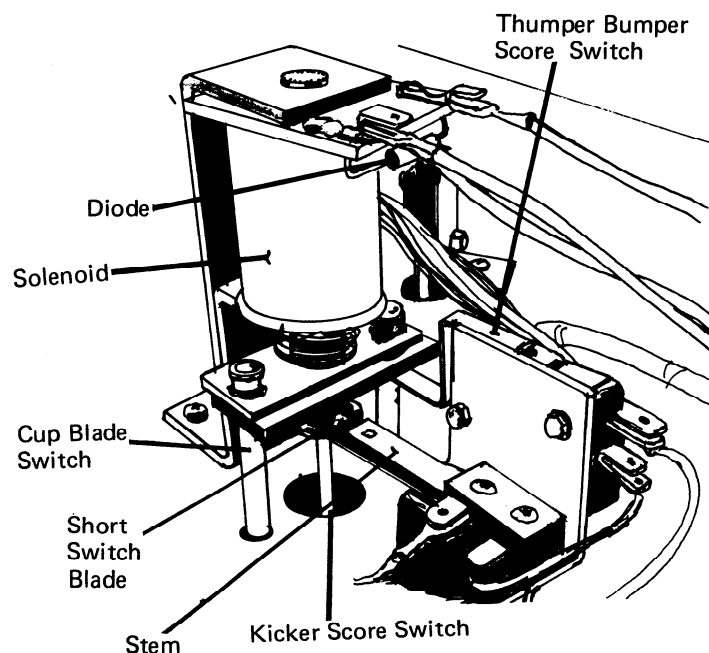
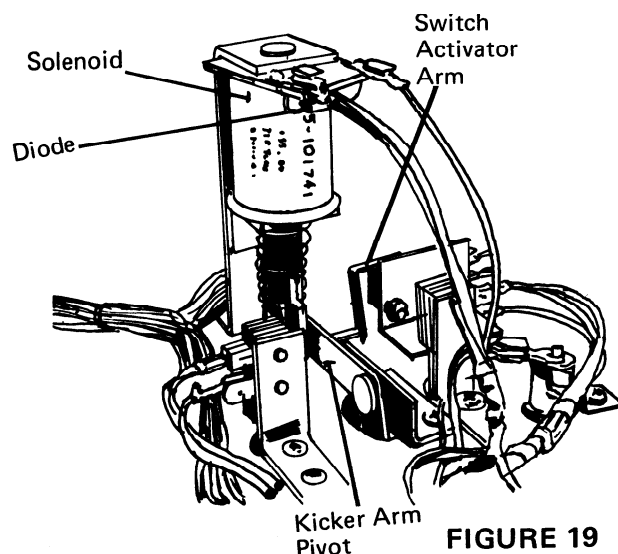
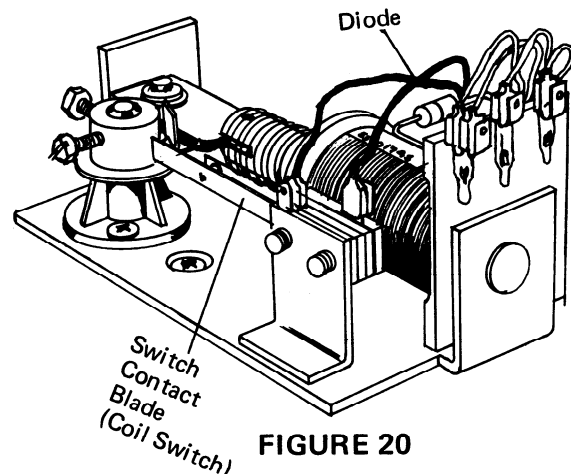

FIGURE 18
FIGURE 19
FIGURE 20
Refer to Figures 18 and 19.
24. If Circuit Breaker No. 2 "trips" only when the thumper is activated, replace diode across terminals of thumper solenoid (See Figure 18). If Circuit Breaker No. 2 "trips" only when a flipper is activated, replace diode across terminals of that flipper's solenoid (See Figure 20, Page 16). If Circuit Breaker No. 2 "trips" only when a kicker is activated, replace diode across terminals of that kicker's solenoid (See Figure 19). If Circuit Breaker No. 2 "trips" only when the ball return solenoid is activated, replace diode across terminals of that solenoid (See Figure 20, Page 16).
37. Adjust Flipper Coil Switch: (Figure 20, Page 16). Note that the switch contacts are closed (touching) and that the short blade is relatively straight. To adjust these contacts properly, push the coil plunger all the way into the coil with your finger. While holding the plunger in as far as it will go, gently bend the short switch blade so that the contacts are approximately .030 inch apart.
41. Adjust Kicker Score Switch: (See Figure 19, Page 15). Push the kicker coil plunger all the way into the coil with your finger. The score switch should click when the plunger is pushed in and again when released. Adjust as required.
42. Adjust thumper bumper cup switch: (See Figure 18, Page 15). Adjust the cup blade so that the stem touches the center of the cup. This insures a uniform action of the thumper bumper. Gently bend the short switch blade so that the contacts are approximately .020 inch apart.
43. Adjust Thumper Bumper Score Switch: (See Figure 18, Page 15). Push the thumper coil plunger all the way into the coil with your finger. The score switch should click as the plunger is pushed in and again when the plunger is released. To adjust the score switch bend the switch arm up or down as required.